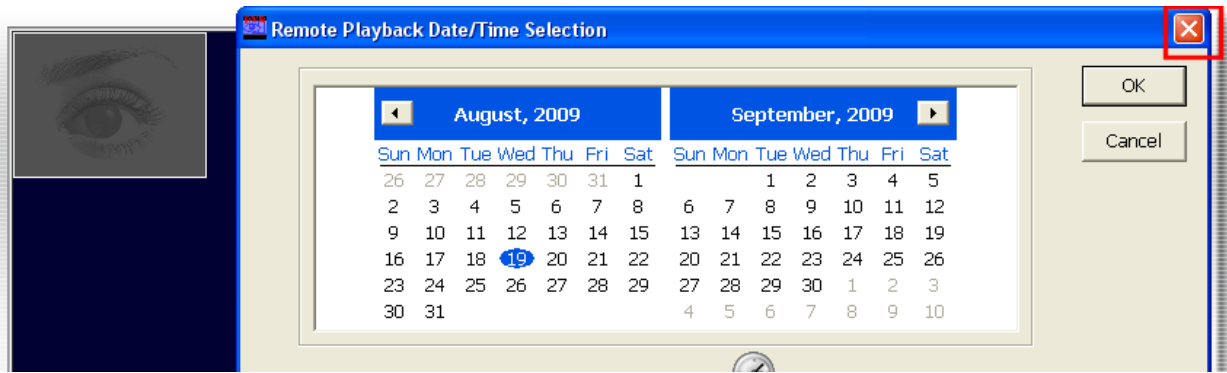

Figure 157. AAR – Close Remote Playback Date/Time Selection Window
3. Close the Calendar/Matrix window (Figure 157) by clicking the [X] in the upper right corner.